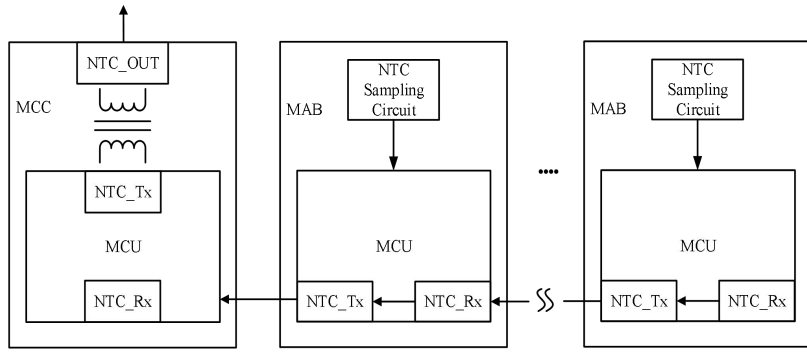

Fig.10 Distributed NTC sampling circuit topology
For packaged modules such as Infineon XHP_2, Mitsubishi LV100, Hitachi Linpak, etc., negative temperature coefficient resistors (NTC) are integrated internally, one end of which is connected to the source (S) of the bottom bridge arm of the module, the isolation sampling is required. Firstack has developed a distributed NTC (DNTC) sampling circuit for this purpose, which samples from the first MAB to the MCC or the last MAB. During the transmission process, the temperature information will be saved and sequentially transmitted to the next microcontroller, and the last microcontroller will transmit all the temperature or the highest temperature information according to the SW and report it to the master computer, which is convenient for the user to check the operation status and optimize the architecture for heat dissipation. **Fig.10** describes the basic topology of the circuit, and this new design has several advantages: